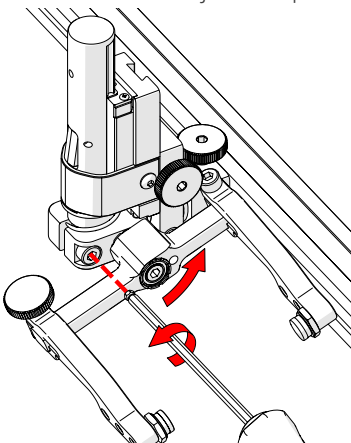

Fig. 152 - Loosen 3 mm screw
2. Using the supplied 3 mm hex driver loosen the transverse adjustment screw (Fig. 152) and rotate the yoke about the vertical shaft achieving the desired angle.